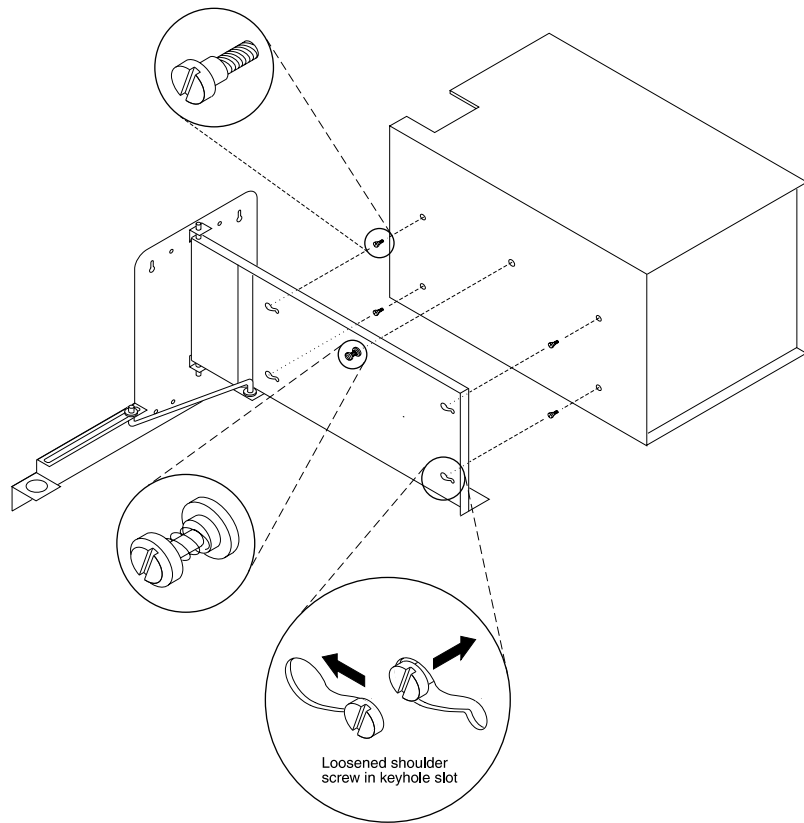

Figure 2-8. Exploded View of Wall-Mounted G3vs V4 System
1. Loosen the four shoulder screws (approximately one complete turn) holding the G3vs V4 cabinet to the mounting panel (see Figure 2-8).